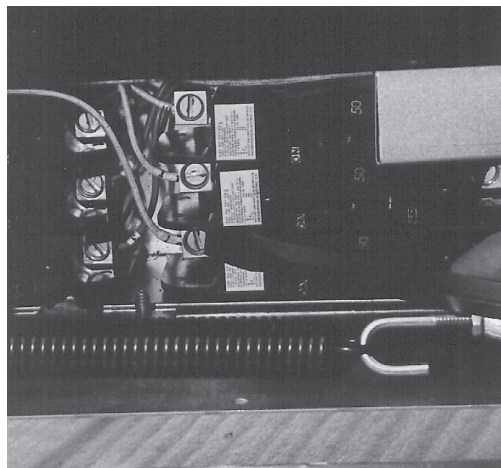

Fig. 49
2. With a $\frac{5}{16}$ " socket, remove (2) hex head retaining screws holding the breaker cover over the breakers. To remove the cover tilt the bottom right end over the exposed access panel screws. Slide the breaker panel to the right until it touches the sidewall. Tilt the bottom left end out and over the left door spring and pull the breaker cover panel out.
3. Note and remove breaker wiring using a large flat head screwdriver. (Fig. 49)